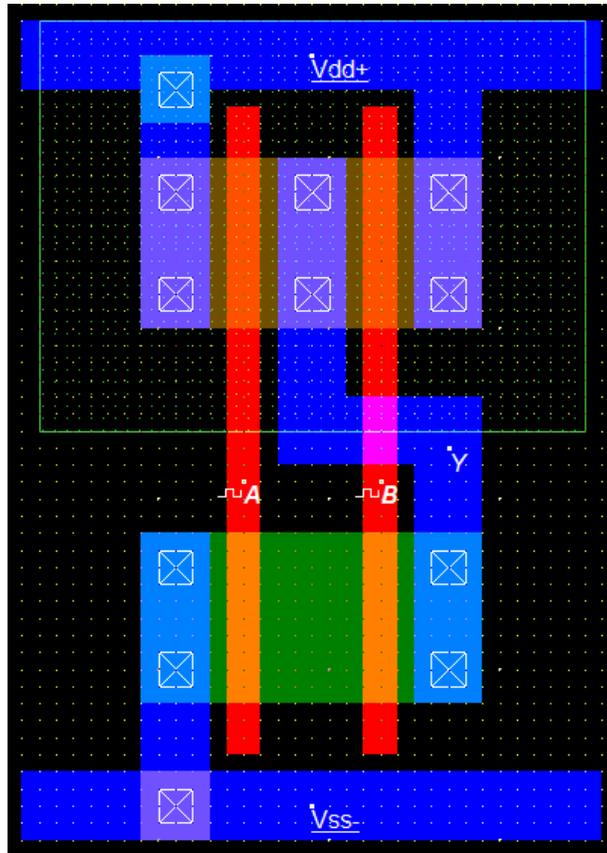

Figure 9
Then place appropriate input (clock) signals on polysilicon fingers, and VDD and GND on rails. Lastly, place a “Visible node” on output (Y) terminal. The final layout of CMOS NAND2 is depicted in Fig. 9.